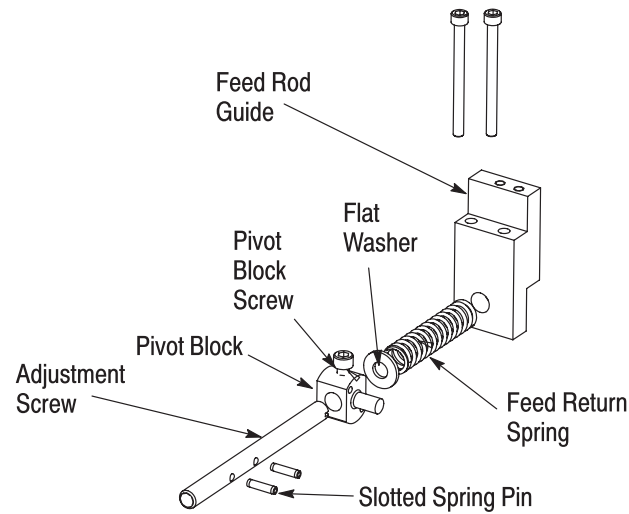

Figure 12
2. Remove the pivot block screw, adjusting plate screws and feed mechanism parts from the applicator. See Figure 12.
3. Remove the feed rod guide, and remove the adjustment screw. See Figure 12.